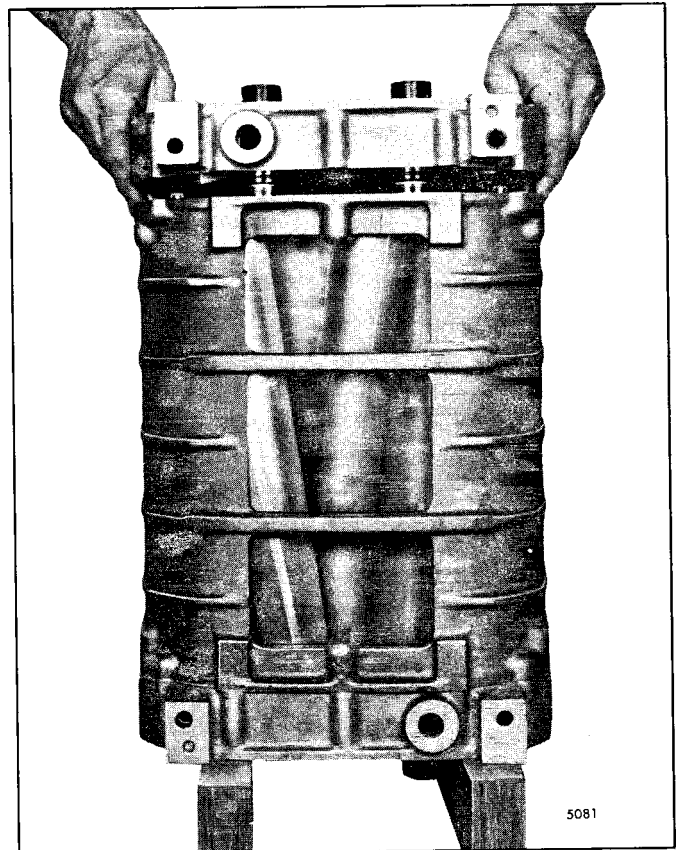

Fig. 17 - Installing Rear End Plate on Blower Rotors and Housing
- c. Temporarily insert four (4) 3/8"-16 x 2-1/2" bolts with washers through the front end plate and thread them into the housing. Tighten the bolts securely.
- d. Lower the end plate straight over the rotor shafts until the dowel pins in the end plate contact the blower housing (Fig. 17). Then, carefully work the dowel pins into the dowel pin holes in the housing and the oil seal rings into the collars. Push the end plate tight against the housing. If necessary, tap the end plate lightly with a plastic hammer.